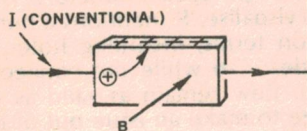
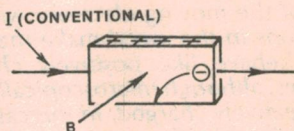
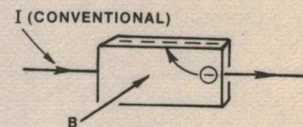

FIG. 2
FIG. 3
FIG. 1
The answer is simply this: a hole moving to the left is NOT the simple equivalent to an electron moving to the right! The directions of (conventional) current are the same but, as we have already shown in Fig. 1 and 2, the sign of the Hall voltage is different. Consequently a hole must be regarded as a completely different type of charge carrier to an electron. Our analogy with seats in a picture theatre has its limitations and it is time to look a little more deeply into the nature of a hole.
The behaviour of "negative mass" electrons is shown in Fig. 3. Looking again at Fig. 1, we see that positive mass electrons are deflected upwards when they travel from right to left. Negative mass electrons are therefore deflected downwards by the magnetic force, even though the force is acting upwards. Consequently, the upper side of a P-type semiconductor is positively charged.
Since we get the same result, in Fig. 2, when we talk in terms of holes, it is tempting to say that a hole is really just an electron with negative mass. Unfortunately, life is not so simple, since a hole moving from right to
left does **not** produce a current in the same direction as a negative mass electron moving from right to left. The correct conclusion to be drawn from Figs. 2 and 3 is that a hole (with positive mass!) moving from left to right is equivalent to an electron with negative mass moving from right to left.
Because of the difficulties we can get into by talking in terms of negative mass, most people prefer to think in terms of holes with positive mass. Indeed, Fig. 3 has never appeared in a textbook as far as the author is aware.
The concept of negative mass is really not so difficult to grasp. It is well known, for example, that objects normally fall downwards due to the force of gravity; thus any object falling upwards could be described as having negative effective mass. A bubble rising in a liquid is a good example. Even though the gravitational force acts downwards on the bubble, it moves upwards because the buoyant force of the liquid is greater than the force due to gravity. Similarly, the force of the positive ions acting on the electrons in Fig. 3 is greater than the magnetic force, so the electrons appear to have negative mass.
The action of a magnetic force on the electrons in a sheet of copper is shown in Fig. 1, electrons being deflected towards the upper side of the sheet. The upper side of the sheet becomes negatively charged, and the charge builds up until the electrostatic force of repulsion acting downwards on electrons exactly balances the magnetic force acting upwards. All subsequent electrons move from right to left through the sheet without being deflected.
To dispel any possible doubt about the sign of charge carriers in copper, consider Fig. 2. The directions of (conventional) current flow (I) and magnetic field (B) are the same as in Fig. 1 but the carriers are assumed to be of opposite sign and moving from left to right. As such, they would be diverted upwards, to impart a positive charge to the upper surface of the sheet. But this is at variance with observed fact, indicating that Fig. 1 is valid; Fig. 2 is not.
in fact, as illustrated in Fig. 2. But the point must be made that positive charge carriers are not a new type of particle, as distinct from protons, neutrons and electrons. Protons and neutrons together make up the nucleus of all atoms and the nucleus is much too heavy to move freely as a charge carrier.